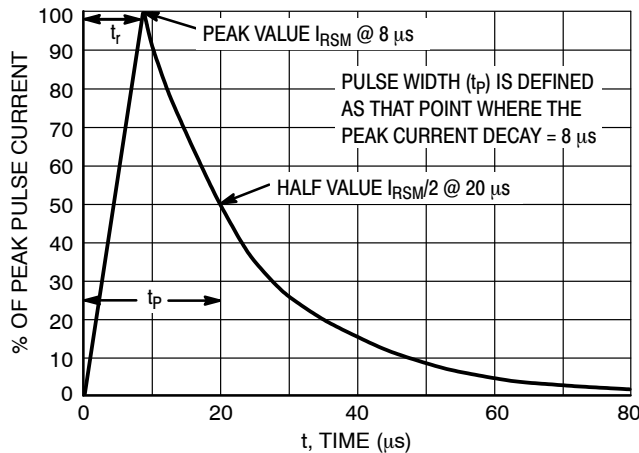

Figure 5. 8 x 20  $\mu s$  Pulse Waveform
1. Nonrepetitive current pulse per Figure 5 (Pin 5 to Pin 2).
- Nonrepetitive current pulse per Figure 5 (Pin 5 to Pin 2).
- Surge current waveform per Figure 5.